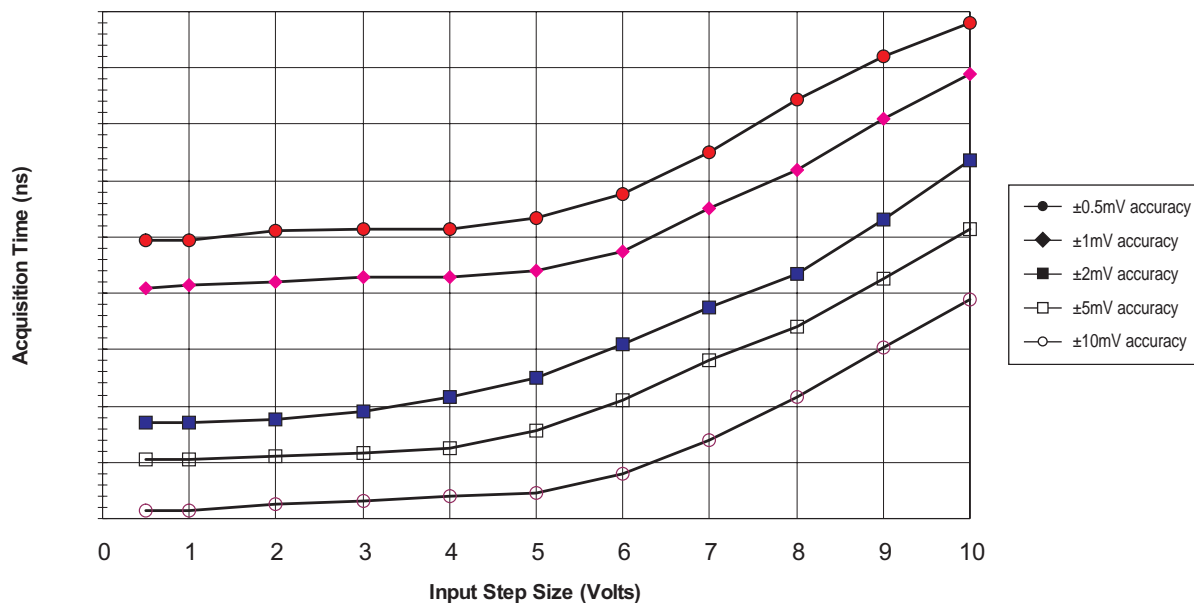

Figure 4. Acquisition Time versus Accuracy and Step Size
① Pins 3 and 4. ② See Figure 4 for relationship between input voltage, accuracy, and acquisition time. ③ Pins 6 and 22.
- See Figure 4 for acquisition time versus accuracy and input voltage step amplitude.
As shown in the plot (Figure 4) of acquisition times vs. input signal step size, the S/H's internal to the CDS-1401 acquire smaller-amplitude signals quicker than they acquire larger-amplitude signals. In "maximum-throughput" applications, assuming "asymmetric" timing can be accommodated, each S/H should only be given the time it requires, and no more, to acquire its input signal. Leaving a S/H amp in the sample mode for a longer period of time has little added benefit.